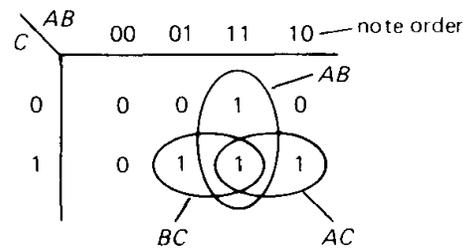

Figure 8.27. Karnaugh map.
**Step 2.** Make a Karnaugh map. This is somewhat akin to a truth table, but the variables are represented along two axes. Furthermore, they are arranged in such a way that only one input bit changes in going from one square to an adjacent square (Fig. 8.27).